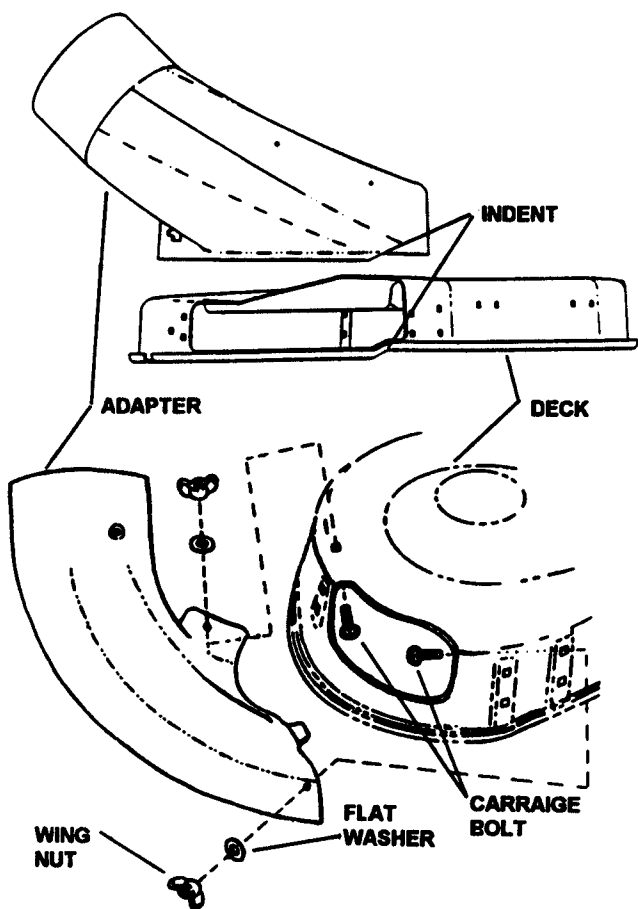

FIGURE 5
STEP 4: (Continued from previous page.) Position adapter over discharge opening using the step on the adapter and the deck flange as a reference point. Use holes in deck as shown in Figure 5 to mark areas on adapter to be drilled. Drill holes in adapter using a 11/32 drill. Mount adapter to deck using 5/16 x 1" carriage bolts, 5/16 flat washers and 5/16 wing nuts. Tighten nuts securely. See Figure 5.